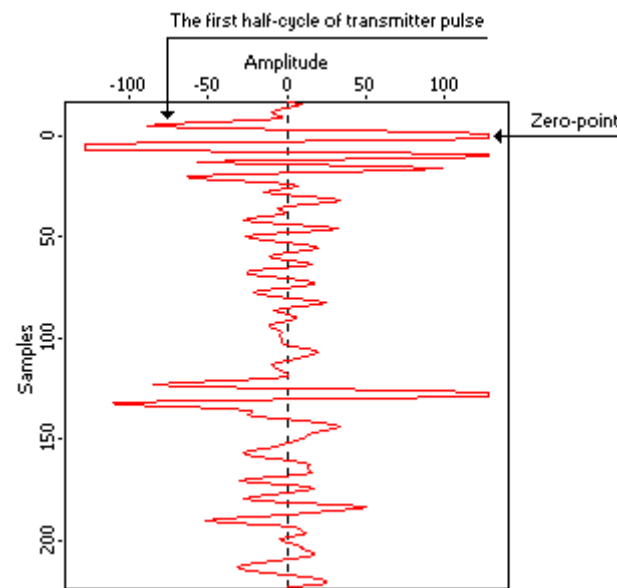

Fig. 4.1. Trace output
- **Zero point** – the trace sample corresponding to the moment of the transmitter radiation maximum. It is the sample that is used as a zero. It is a point where starts time counting of the reflected signal. As mentioned above, the transmitter pulse is one and a half period (i.e., three lobes) signal. This suggests that the zero point should be set to the middle of the transmitter pulse lobe (direct wave). The way to set the zero point is described in Section 11. Working with sounding data files on page 46. This is a very important parameter that must be taken into account while depth determination of the target in the sounded medium. Examples of the true zero point location are shown in Fig. 4.1, 4.2, 4.3, 11.3.